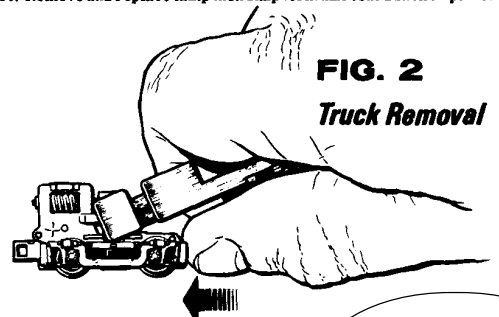

FIG. 2
- 3) Grasp mainframe between thumb and forefinger placing thumb behind truck as shown in Fig. 2.